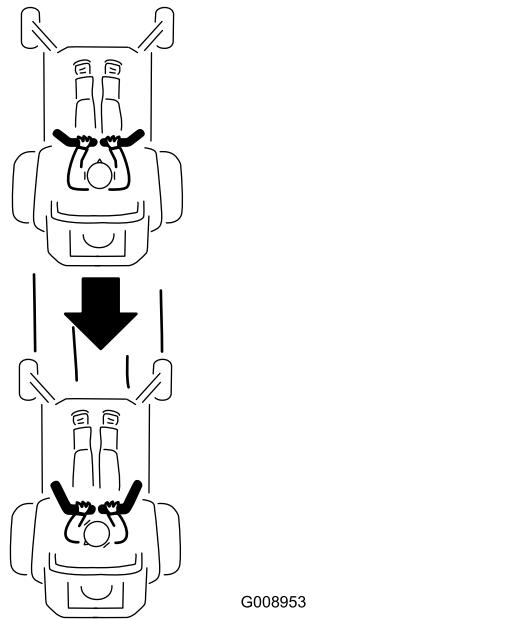

Figure 30
2. To go in reverse, slowly pull the motion-control levers rearward (Figure 30).